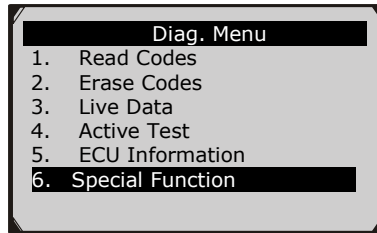

Figure 10.3
- 1) In the **Diagnostic Menu** (Figure 10.3), use the **UP/DOWN** button to select **Special Function** to do the EPB test, which includes **Brake cable replacement** and **Electric parking brake replacement**.
1. Follow the instructions above to display the **Diag. menu** screen.(Figure 10.3)